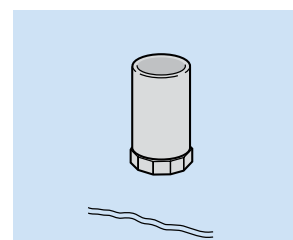

Fig. 59
- Dress first layer of felt up to pipe (Fig. 59).